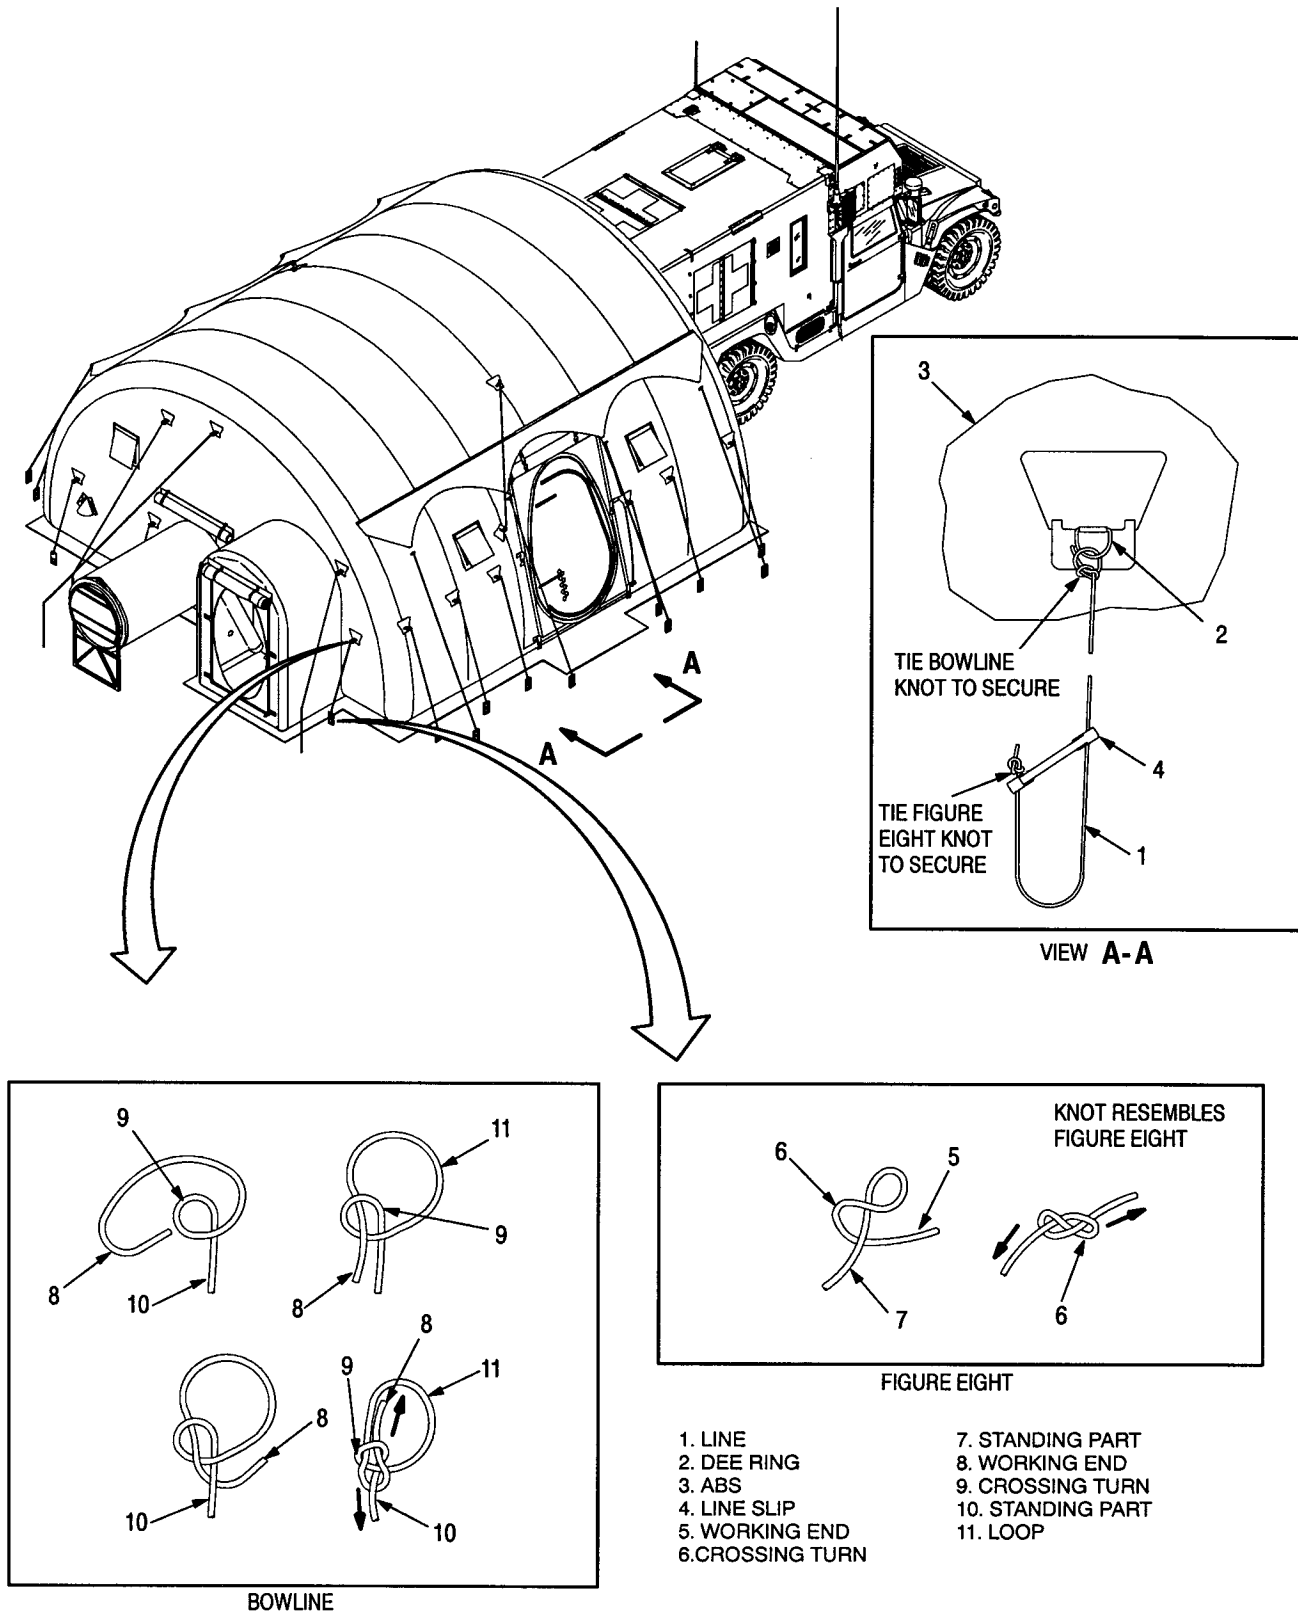

Figure 3-10. ABS Line Replacement
a. Removal (Refer to Figure 3-10)
- (1) Untie or cut ABS line (1) from Dee Ring (2) on ABS (3).
- (2) Pull ABS line (1) through holes on line slip (4). Discard ABS line (1).
b. Installation (Refer to Figure 3-10)
- (1) Cut new ABS line (1) to proper length.
- (2) Thread working end (5) of ABS line (1) through holes on line slip (4).